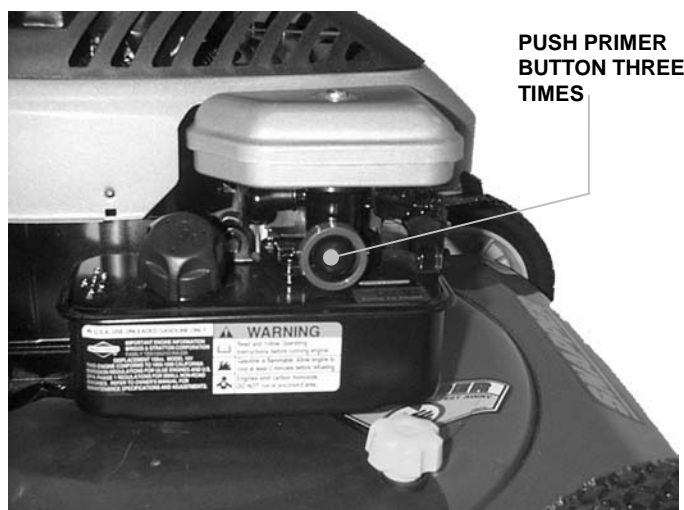

FIGURE 2.3
1. Push primer button three times to start a cold engine. **NOTE:** Do not use primer button to start warm engine. See Figure 2.3.